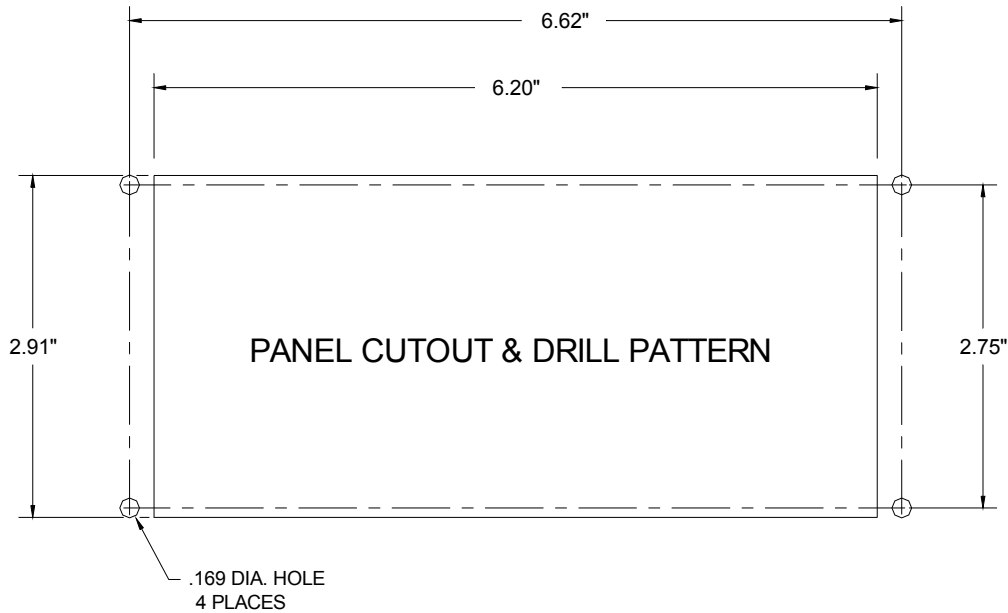

Fig. 8, Mounting panel cut-out
- ▶ Cut/drill the mounting panel to the specifications shown in Figure 8